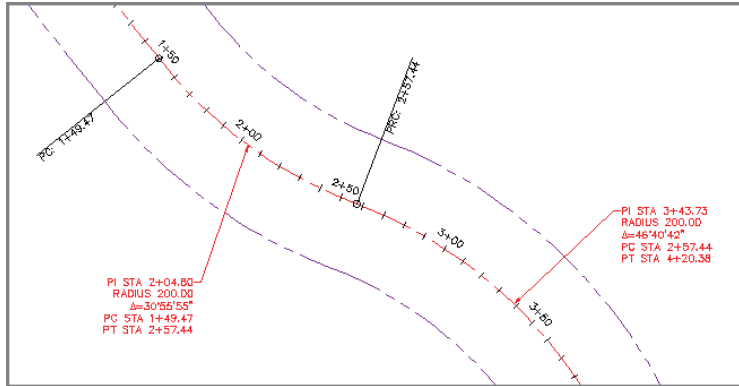

FIGURE 6.7 Curve labels added to the Jordan Court alignment. To improve readability, the labels have been dragged away from the alignment and into clear areas.
11. Move the curve labels for Jordan Court to open areas in the drawing so that they are easier to read (see Figure 6.7).